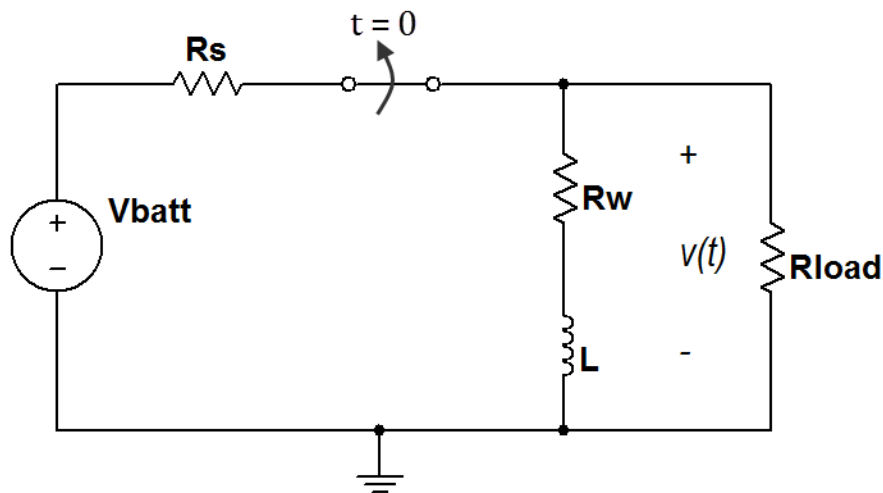

Figure 5.5: Circuit for Problem 5.4
The circuit of Figure 5.5 on the facing page demonstrates how an inductor can produce a high-voltage pulse across a load resistance R_{load} that is considerably higher than the circuit's power supply V_{batt} , a 1.5-volt "AA" battery. High-voltage pulses drive photo flash bulbs, strobe lights, and cardiac defibrillators, as examples.
1. Enter the circuit of Figure 5.5 on the next page. Use the interactive switch SPST (single pole, single throw) and a measurement probe to determine v with the switch closed for a long time.
1. Construct the circuit of Figure 5.5 on the previous page using the normally-closed Switch 2 contained in the Intersil DG413 quad analog switch described in Appendix D on page 173. Refer to the pinout diagram of Figure D.1 on page 174 and connect power according to the photograph of Figure D.2 on page 175. Do not place actual resistors for R_s and R_w because these simply model the finite resistance of the analog switch and inductor winding resistance. Create the 1.5 volt source with the LM317 variable voltage circuit of Figure B.2 on page 164 and connect it to the DG413 “Source (Input)” terminal; connect the “Drain (Output)” terminal to the inductor.
The switch model resistance R_s and the inductor winding resistance R_w values used in the circuit of Figure 5.5 on page 71 were based on measurements taken with actual equipment, but may not necessarily match the values for your devices.